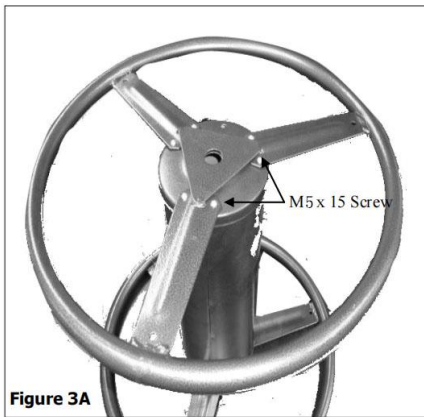

Figure 3A
3. Attach hose reel end to the center hub using (6) M5 x 15 screws. repeat opposite side. See figure 3A.